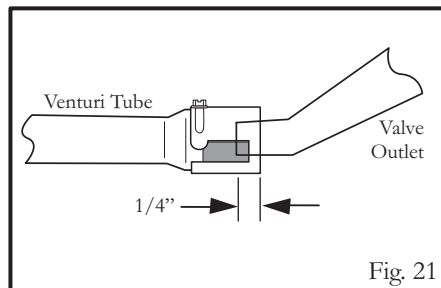

Fig. 21
- Reinstall the burners properly over the valves (see Fig. 21).
If burners are removed for cleaning or adjustment, always confirm that they have been reinstalled correctly over the valve outlets (see Fig. 21). The valves should extend into the burner venturis 1/4" minimum.